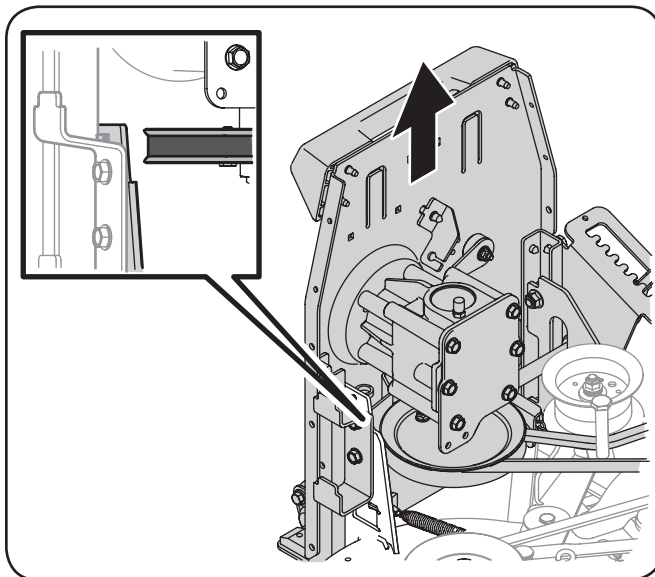

Figure 6-11
8. Using the attachment handle, pull up on the mowing deck attachment to create a larger gap between the drive pulley and frame, easing removal of the top belt from around the drive pulley. Refer to Figure 6-11.